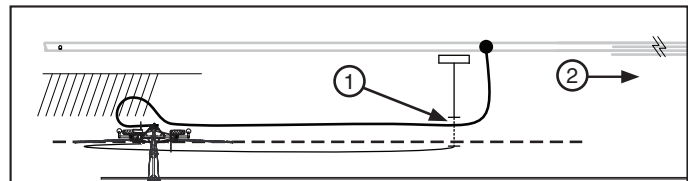

Figure 51-4 1. Buried Cable
- (c) After the swivel inlet has pivoted completely the hose is being pulled by the swivel inlet and guided by either the side walls of the cart tires or the optional hose bumpers. See figure 51-4.